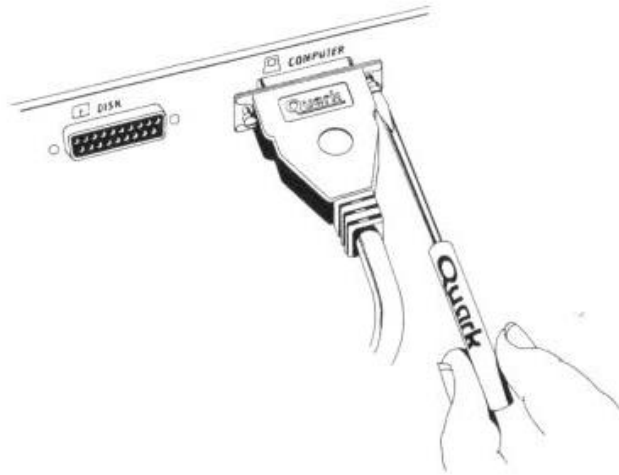

Figure 2-17. Connecting Quark Cable to QC Hard Disk
4. Connect the other end of the Quark cable to the nineteen-pin "D"-shaped socket labeled "Computer" on the back of the QC hard disk, and tighten the screws as illustrated in Figure 2-17.